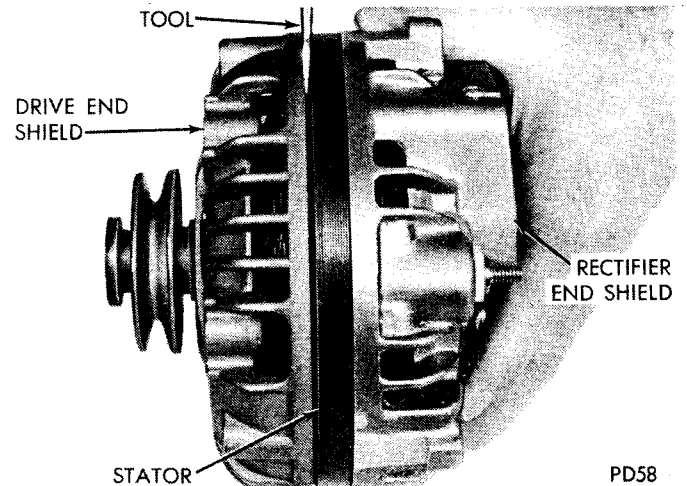

Fig. 13—Separating Drive End Shield From Stator
(2) Remove through bolts and pry between the stator and drive end shield with blade of a screwdriver (Fig. 13). Carefully separate drive end shield, pulley and rotor assembly away from stator and rectifier end shield assembly.